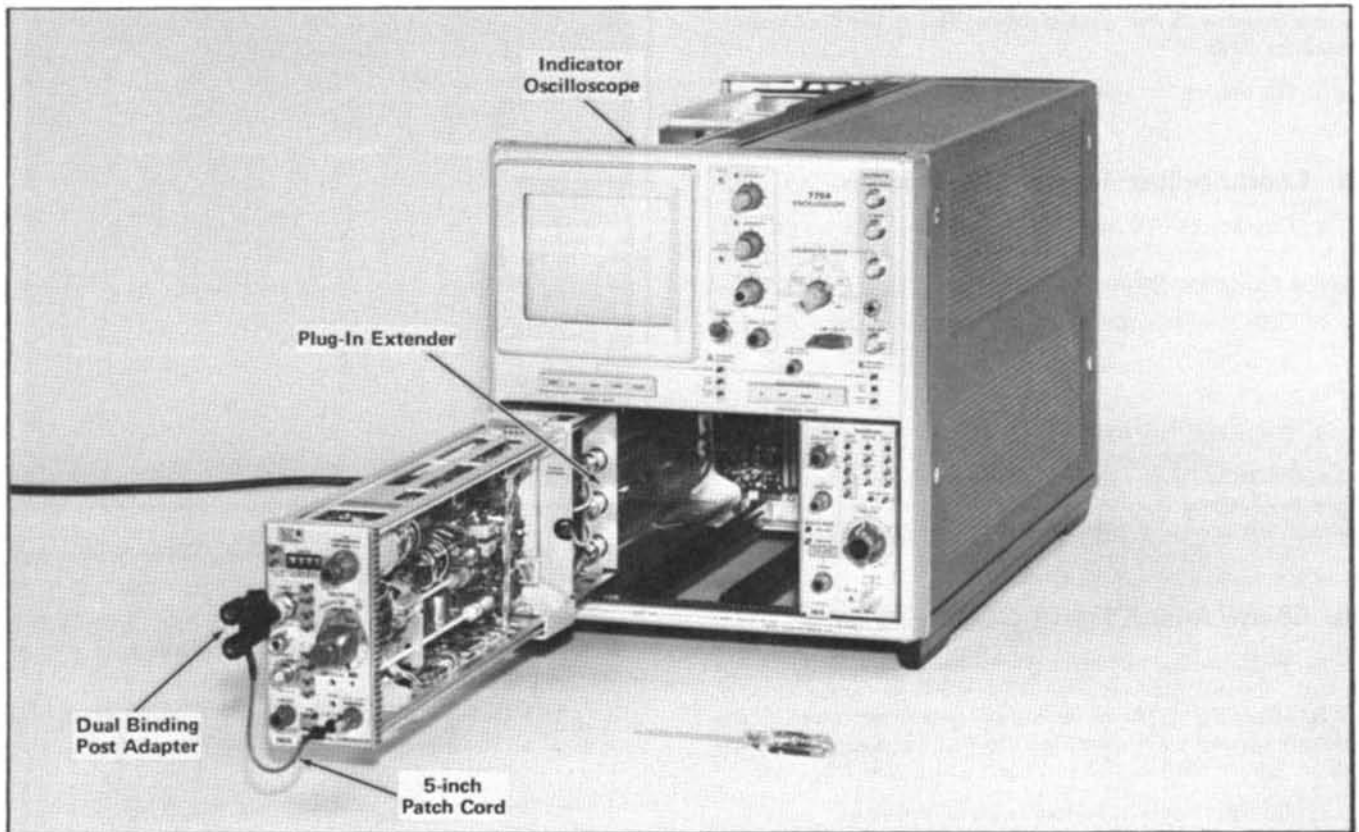

Fig. 5-5. Initial setup showing equipment required for performing steps 10 and 11. For a performance check the Plug-in Extender is not needed.
- a. Test equipment setup, with connections made at completion of step 10c, is shown in Fig. 5-5.